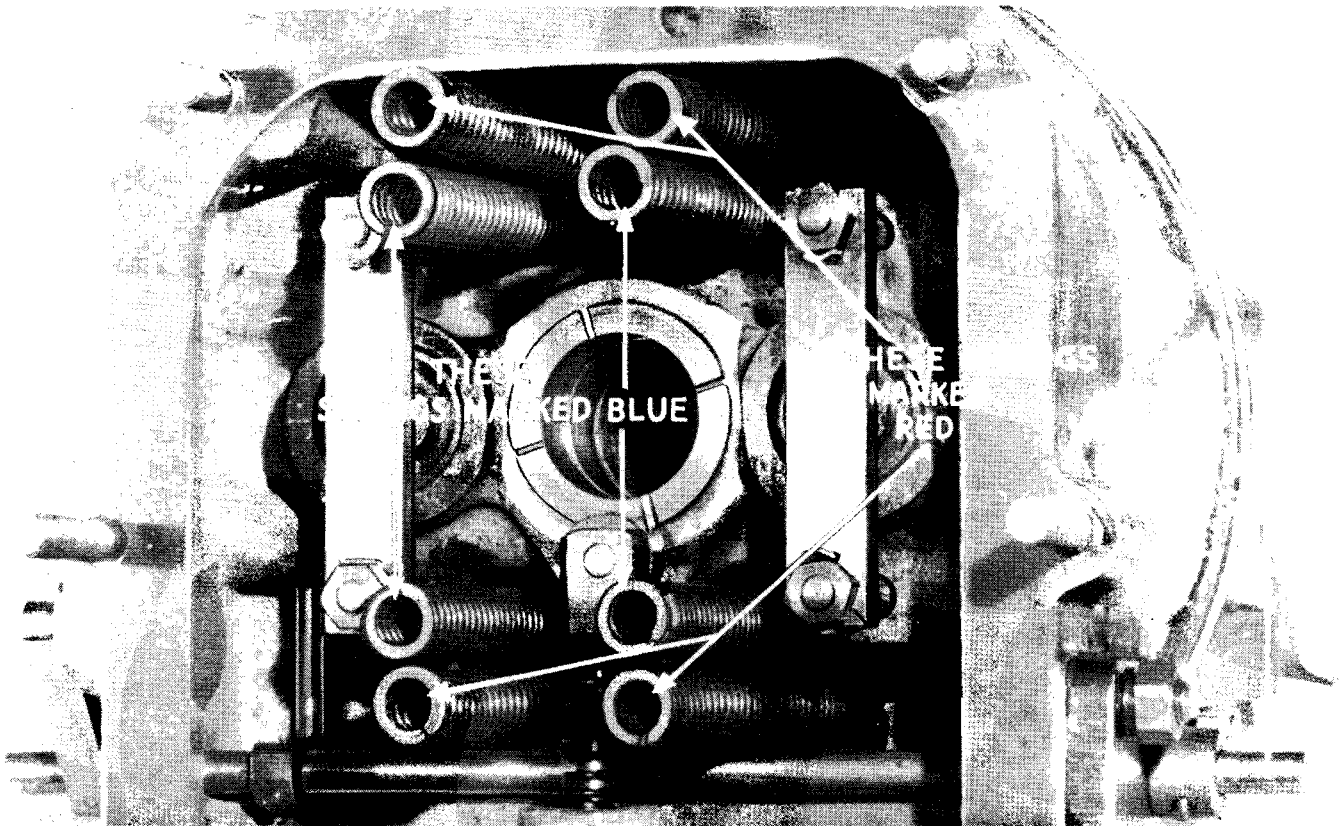

Fig. 3. Showing correct positioning of eight springs.
16. Ensure that the eight springs in the overdrive unit are correctly located as shown in Fig. 3. The colouring of these springs, indicated in this illustration, is scheduled to be discontinued at a fairly early date, but the centre springs will then be readily